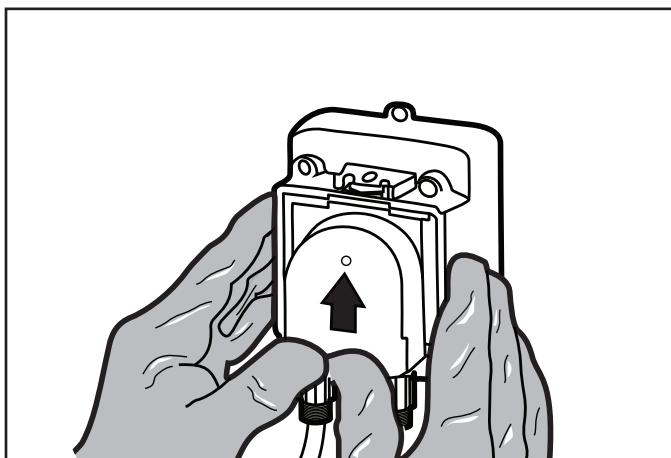

Figure 18. Slide Cover Off
- To slide the cover off, push up on the raised edge. See Figure 18.